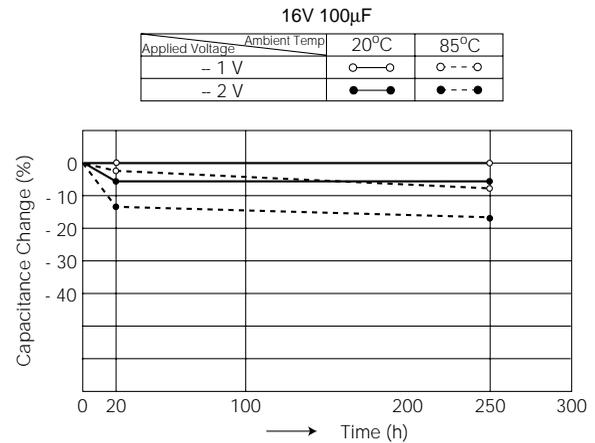

Fig. 2-3 Capacitance vs. Reverse Voltage Characteristics
- 2) In case of a low reverse voltage and a low leakage current, a capacitor initially generated heat due the power loss. But the progressing formation of an oxide layer on the cathode electrode causes a decrease in current. Fig. 2-3 shows how the capacitance changes relative to the application of reverse voltage. The results shown in the figure is due to the decrease in cathode foil capacitance caused by oxide layer formation on the surface of the cathode aluminum foil. Again due to the consumption of electrolyte, the  $\tan \delta$  increases.